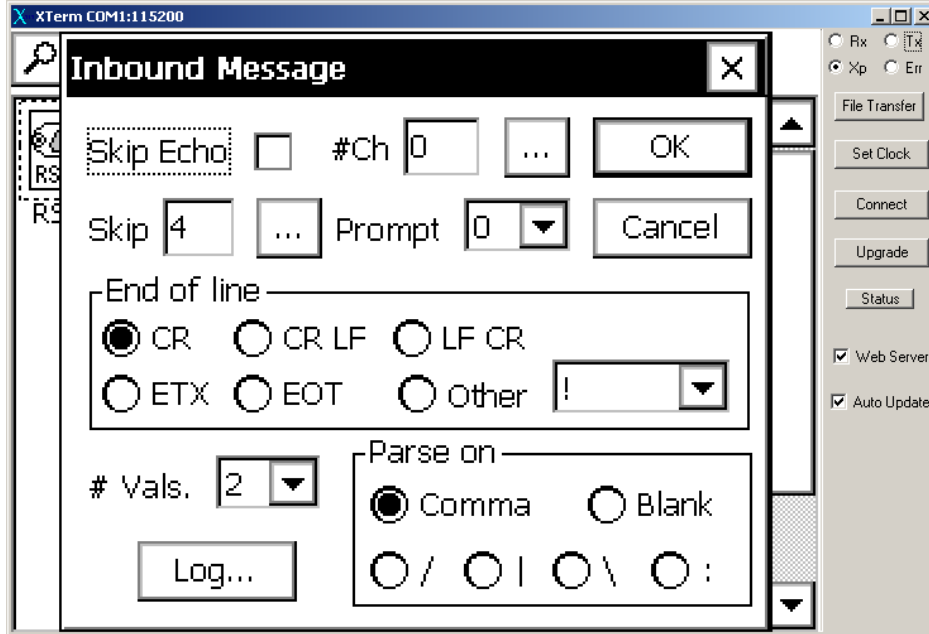

Figure D-15
Figures D-15 and D-16 illustrate the **In and Out** settings for the ULS. The ULS echoes the input command and requires that four (4) characters be skipped. The returned data values are separated by commas. The ULS uses carriage returns (CR) to terminate commands and responses. The **Get Data** command is **\$BM**.